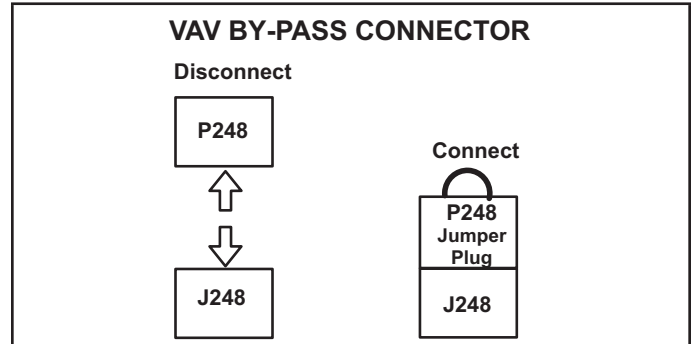

FIGURE 24
- 3- Disconnect J248 from P248 and connect connect P248 jumper plug to J248. P248 jumper plug is attached to the J248 wire harness near the J248 jack connector. See FIGURE 24.